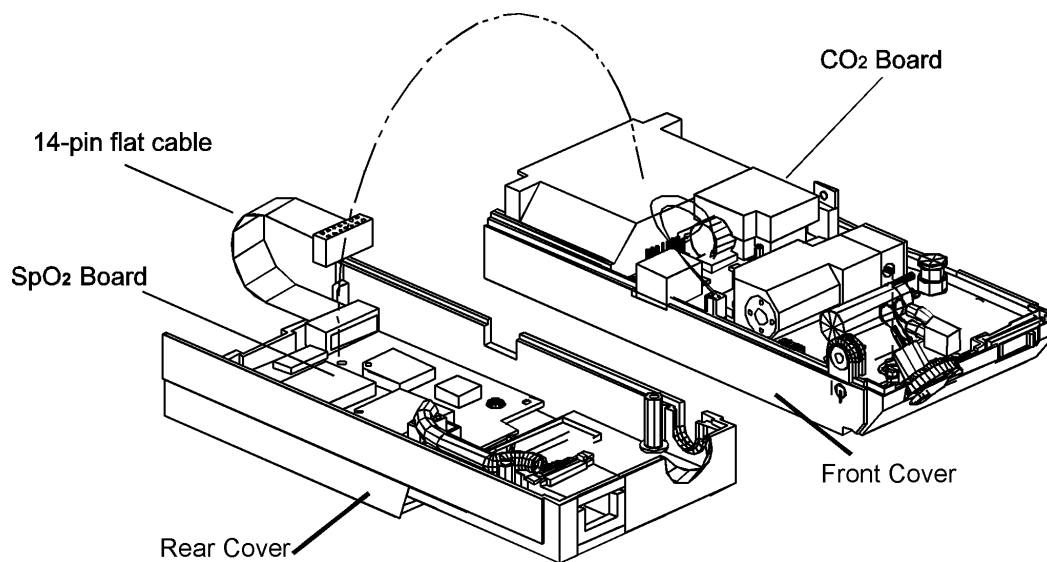

Figure 7-3: Separating Rear and Front Covers
4. Carefully lift the rear case cover up and remove the 14-pin flat cable from the CO₂ board as shown in Figure 7-3: Separating Rear and Front Covers.